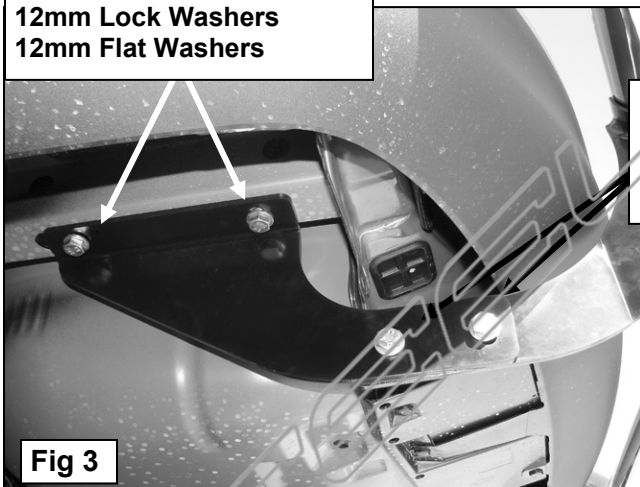

Fig 3
4. Attach the driver side Frame Bracket to the bottom of the frame channel frame with the included (2) 12-1.25mm x 35mm **Special Fine Thread** Hex Bolts, (2) 12mm Lock Washers and (2) 12mm Flat Washers, **(Figure 3)**. Snug but do not tighten hardware at this time.
5. Select the driver side Bumper Guard Mounting Bracket. Bolt the Mounting Bracket to the inside of the Frame Bracket with the included (2) 12-1.75mm x 30mm Hex Bolts, (2) 12mm Lock Washers, (4) 12mm Flat Washers and (2) 12mm Hex Nuts, **(Figure 3)**. Do not tighten at this time.